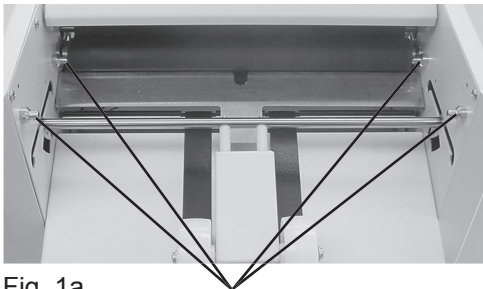

Fig. 1a Locating Pins
1. Install upper and lower fold plates in position. Be sure the plates are set firmly on the locating pins (Fig 1a & 1b). Slide the fold plate in until it meets the first locating pin then push down to lock it in position (Fig. 2).